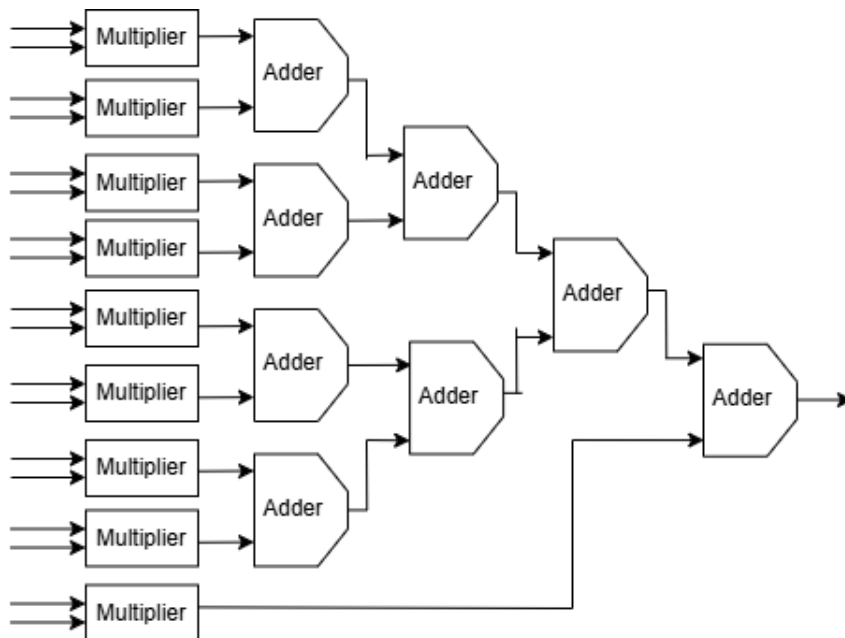

Figure 3: MAC Unit with 9 Parallel Multiplier
3. This module will perform **multiply and accumulation** operation **fully parallel** just like in the Figure 3. Use * and + operators to calculate sum of products. Consider the size of the products and summations. The size of a product is equal to size of the multiplicand plus size of the multiplier ($c=a*b \rightarrow \text{size}(c) = \text{size}(a)+\text{size}(b)$). Besides, the size of a summation is equal to size of the larger one of the operands plus 1 ($c=a+b \rightarrow \text{size}(c) = \max(\text{size}(a), \text{size}(b)) + 1$).